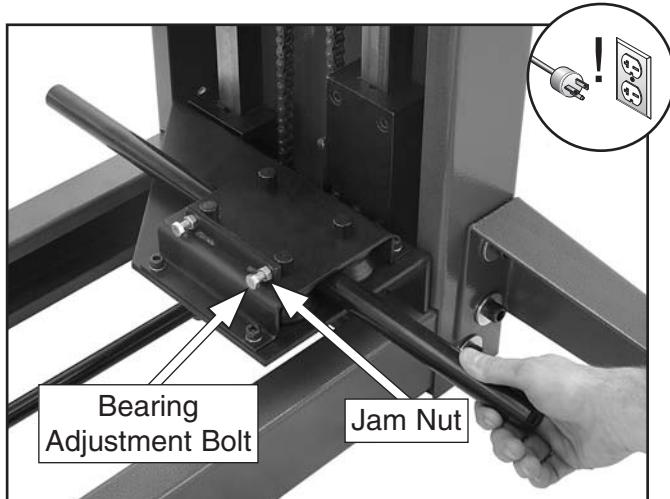

Figure 48. Table bearing adjustment (table removed for clarity).
1. Loosen the jam nuts on the bearing adjustment bolts (Figure 48).